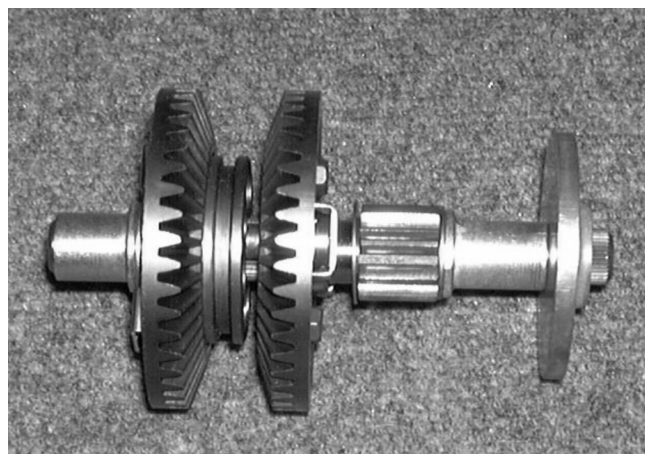

FIGURE 5.
- 9). Remove the differential assembly. See figure 5.
- 10). Remove the shift fork, detent ball, and spring. See figure 5.
- 11). Remove the upper drive shaft assembly. See figure 5.